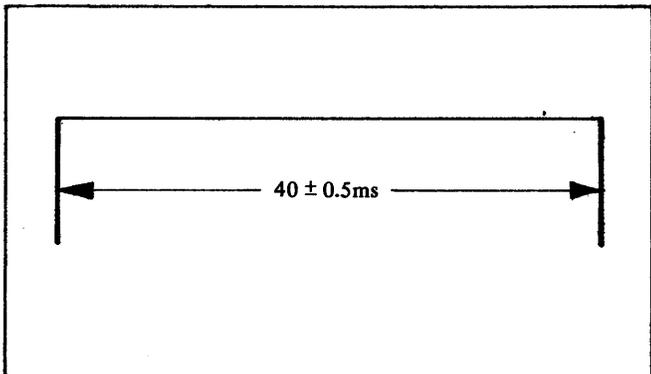

Figure 4-15. INDEX Pulse
3. Check that the interval between INDEX pulses is 40±0.5 milliseconds, in accordance with figure 4-15.